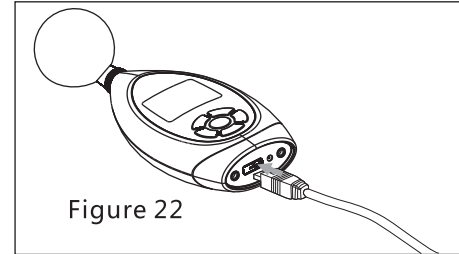

Figure 22
- Insert one end of USB wire into the USB socket on the unit, as shown in figure 22: